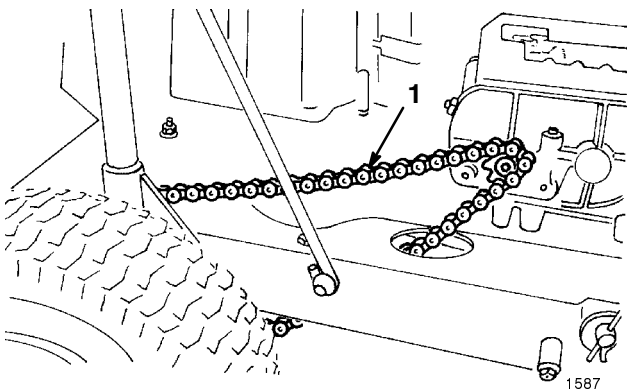

Figure 31
2. Check the deflection of the drive chain by lifting up and pressing down on the chain with moderate pressure at mid span (Fig. 31). There should be 1/8 in. (3 mm) total deflection (Fig. 32). If the deflection is not as specified, an adjustment is required; see steps 3-13.